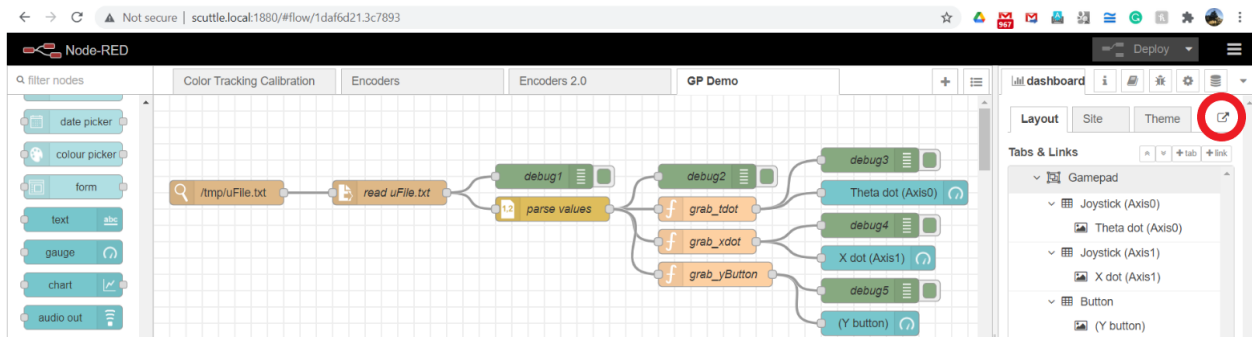
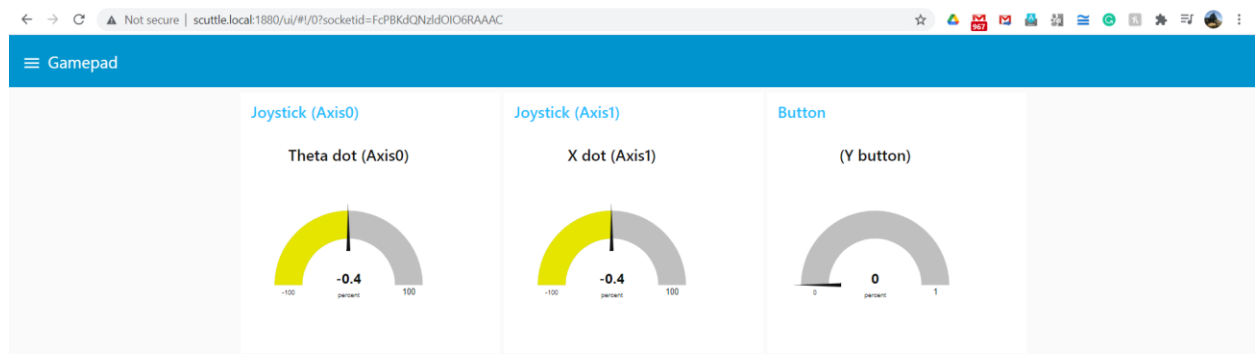

Figure 32
Figure 33
- c. It should create a flow that looks like Figure 32 below:
- d. Now click the “Deploy” button in the upper right of NodeRed and then click the button that is circled in red within Figure 32, and it should open a new tab in your browser with three gauges like Figure 33 below.